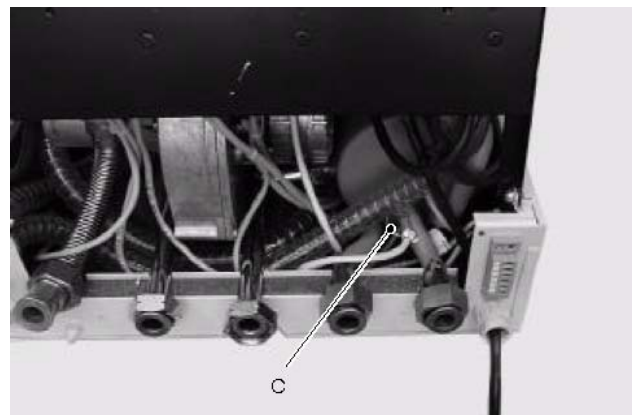

Fig. 20
- 4 Remove the holder spring C (Fig. 20) and extract the sensor.